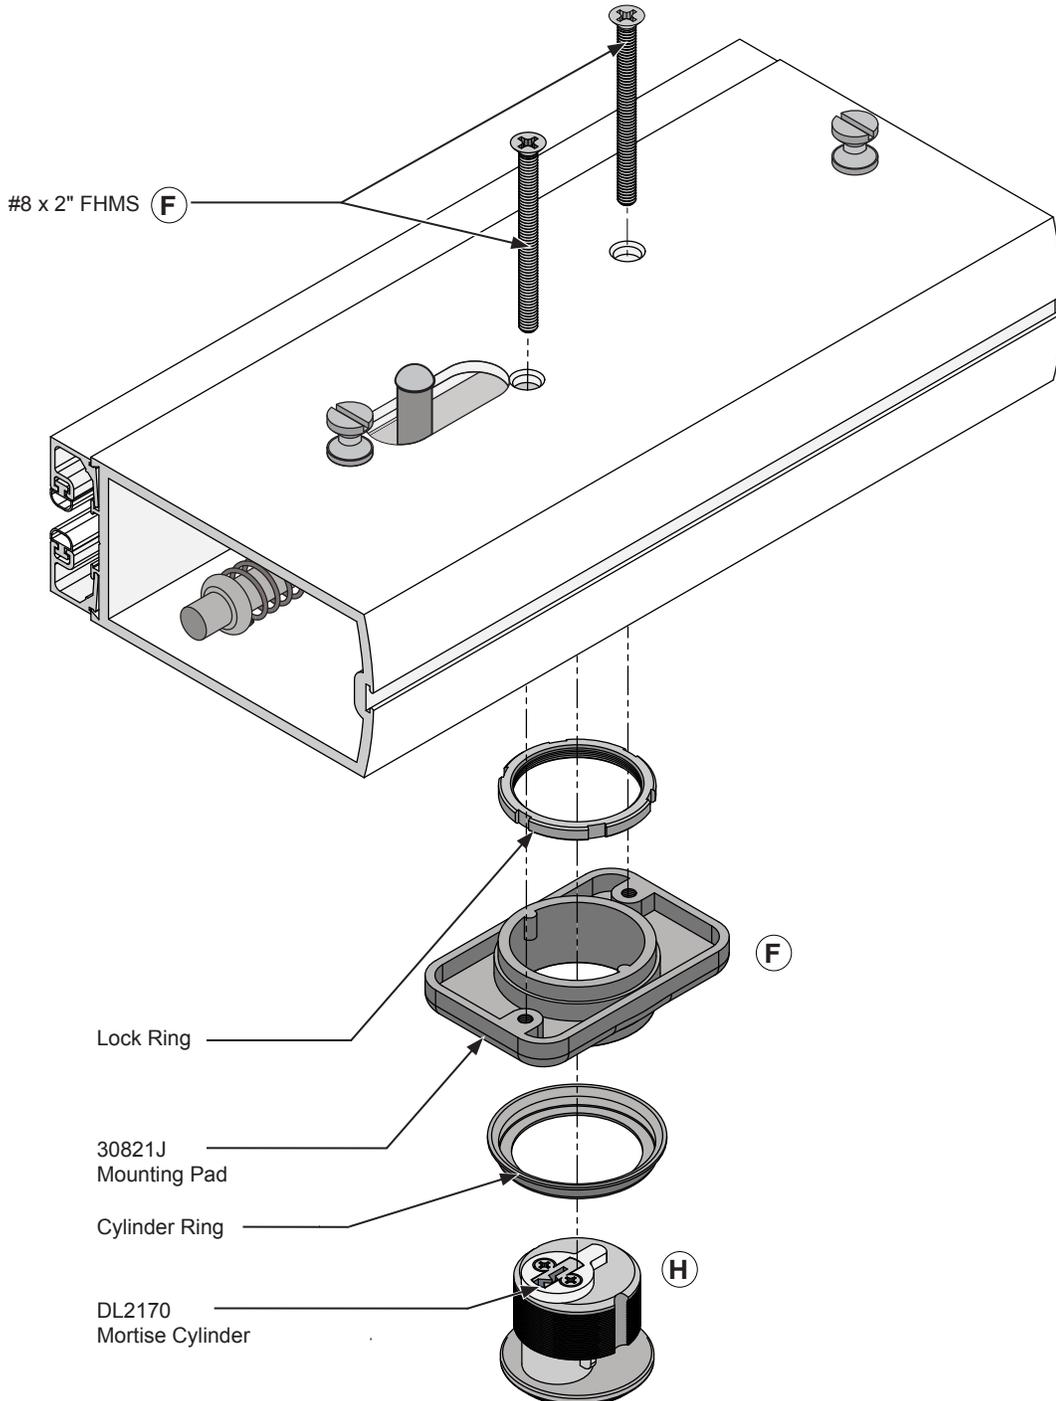

FIG. 11
1. Attach the Mortise Cylinder Lock to the Mounting Pad and secure it with the Lock Ring, using (F) (2) #8 x 2" Flat head screws provided. (Fig. 11)